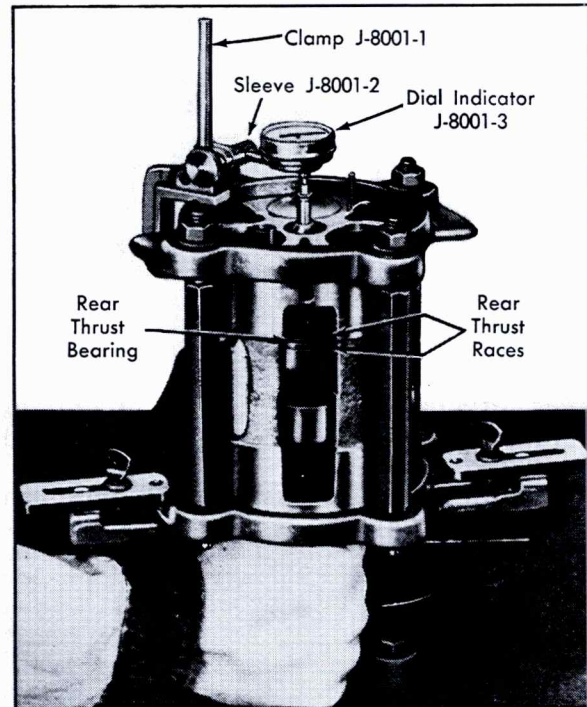

Fig. 1-67 Gaging Rear Thrust Race
20. Mount Dial Indicator, J-8001-3, on edge of Compressing Fixture with Clamp, J-8001-1, and Sleeve, J-8001-2, Fig. 1-67. Position Dial Indicator on rear end of shaft and adjust to zero. Push front end of shaft upward and record measurement.